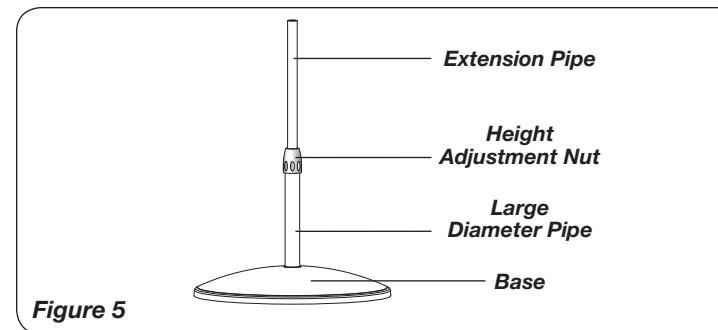

Figure 5
1. With a twisting motion, insert the end of the Large Diameter Pipe into hole in Base. (Figure 5) Turning pipe while pushing will assure pipe is fully seated in Base.